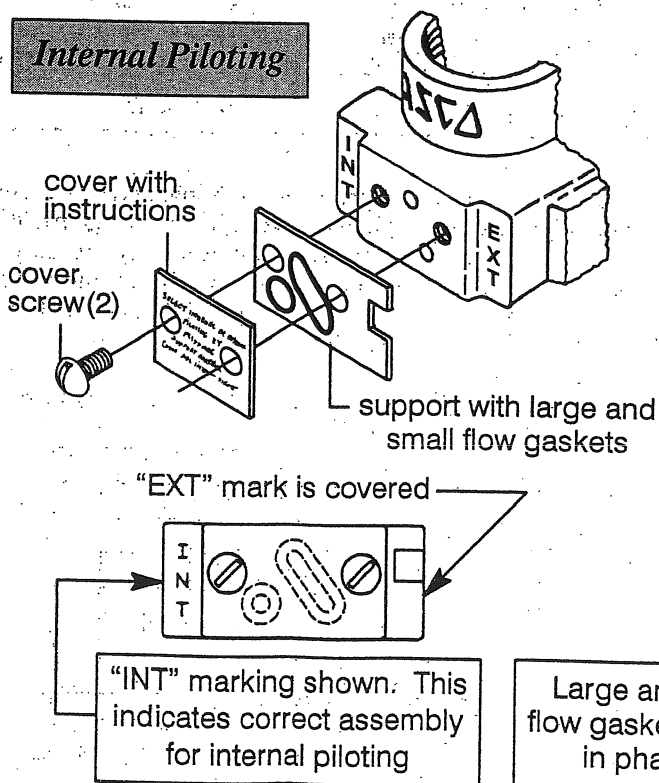

Figure 1. Positioning of support with flow gaskets for internal piloting mode.
The piloting (Mode of Operation) of the valve is determined by the positioning of the **Support with Flow Gaskets** on the side of the valve body. See Figures 1 & 2 for proper positioning of **Support with Flow Gaskets** for internal or external piloting mode of operation.
2. Refer to views in Figure 1 for proper location and position of parts for **Internal Piloting Mode** of operation.
4. Line up support (with flow gaskets) on side wall of valve body using machine screw holes as a guide. When support is correctly positioned (as shown in Figure 1.) the letters
INT are visible and letters EXT on opposite side are covered by the support. Confirm proper alignment with views in Figure 1. Then replace cover and cover screws. Torque cover screws evenly to 13 ± 1 in-lbs [1.5 ± 0.1 Nm].